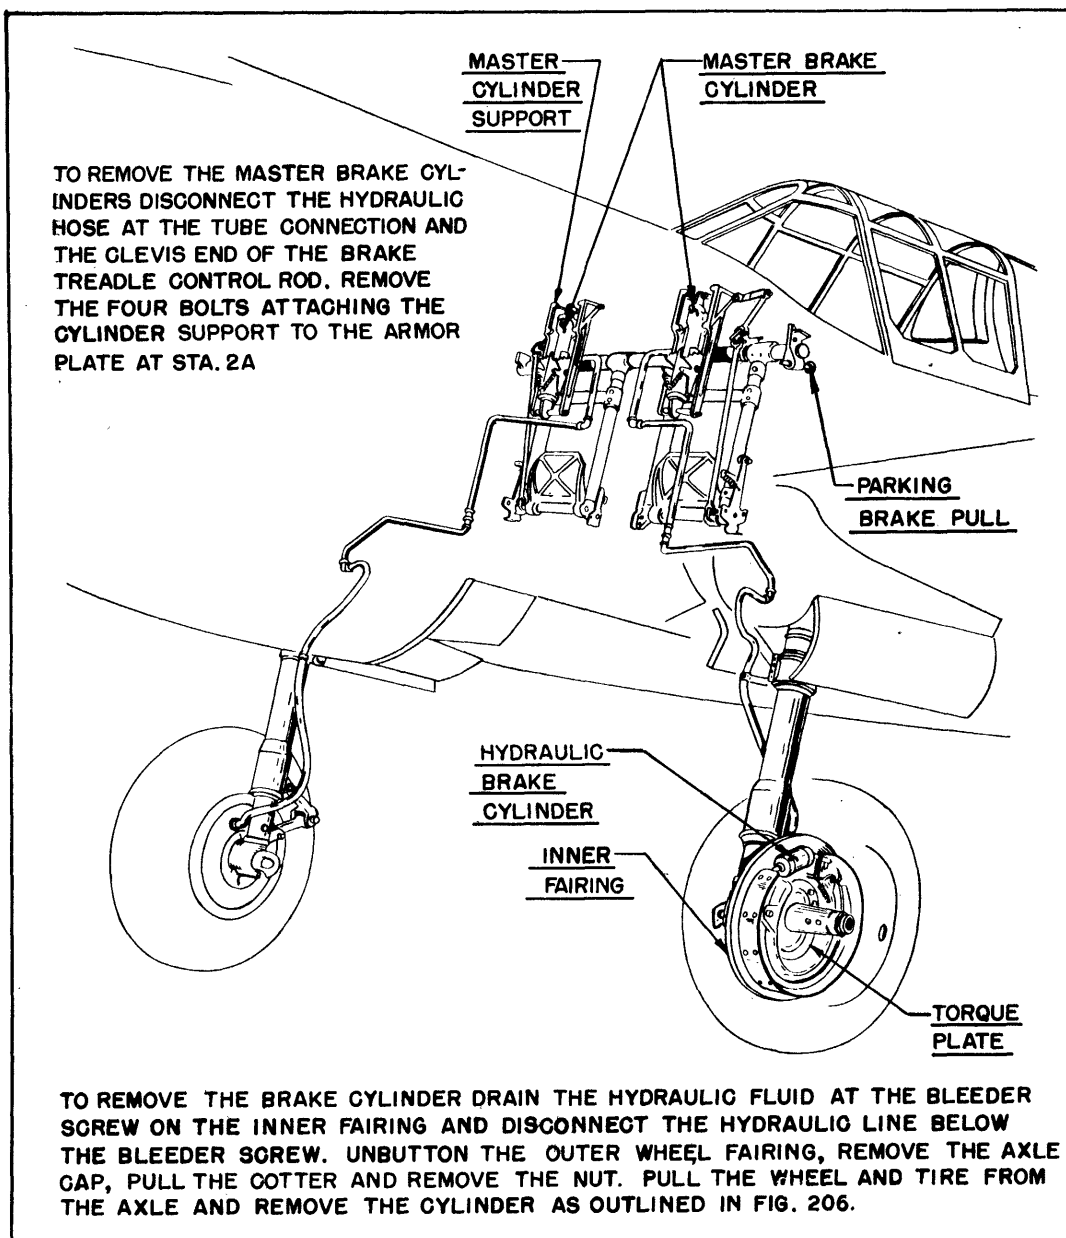

Figure 194 - Hydraulic Brake System
(1) Be sure that the needle point on the plunger has not been damaged in any way.
(2) Drop the plunger and spring into the valve body and screw the setscrew with gasket and lock nut into the valve body.
(3) Set the relief valve to bypass at 1500 pounds per square inch and install the valve in the airplane.
**a. General.** (See figure 194.) - The airplane is equipped with reversible hydraulic brakes of the internal expanding type. The brakes are actuated by Warner aircraft hydraulic cylinders mounted on the armor plate at station No. 2A and connected to the brake treadles in the cockpit. The brakes and cylinders are connected by flexible rubber tubing and 5/16-inch OD "Everdur" tubing. Whenever the brake system does not function properly the entire system should be inspected for leaks. If no leaks are evident in the system the master brake cylinder should be removed and disassembled for servicing.
If there is evidence of leaks in the master brake cylinder, the unit may be removed from the airplane for disassembly by disconnecting the flexible hose, the clevis end of the brake treadle control rod, and removing the four bolts attaching the cylinder mounting support to the armor plate at station No. 2A. (See figure 194.) Remove the cylinder and support assembly from the airplane and remove the through bolt at the top and bottom of the support assembly. Pull the support apart and the cylinder is ready for disassembly.